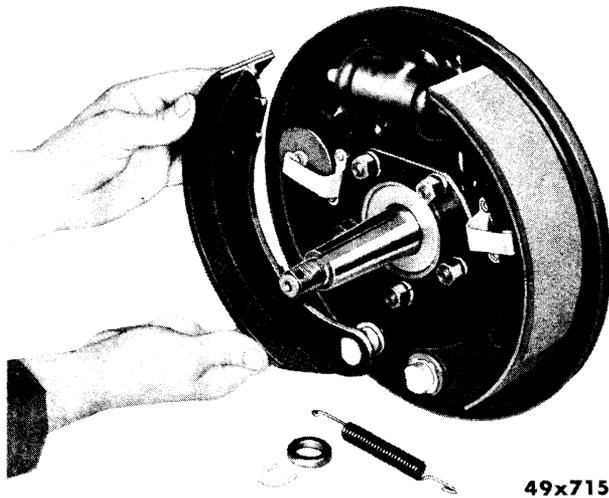

Fig. 6—Removing Brake Shoe
(3) Remove anchor bolt horseshoe washers with Tool C-443. Remove oil washer retainers and oil washers and slide shoes off anchor bolts, as shown in Figure 6.